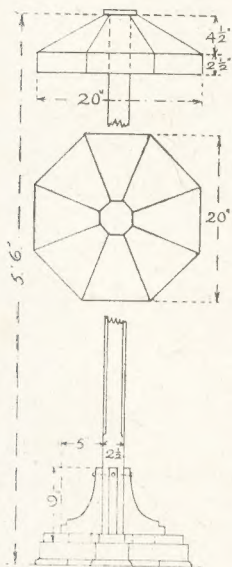
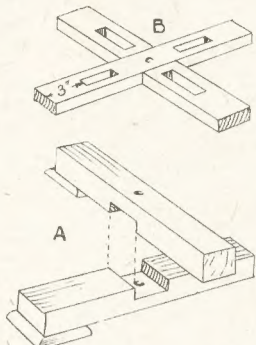
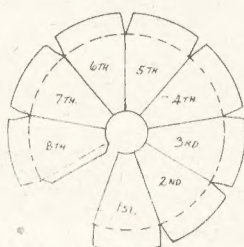

Fig. 2 — Section of standard and base
Fig. 3 — Construction of base parts
Fig. 6 — Shaped shade panels
Work can be commenced upon the base, the general outline and dimensions of which are given in Fig. 2. There are two sturdy crosspieces or rails measuring 18ins. long by 4ins. by 2ins. in cross section, and after they have been cut off squarely and the centres marked across, the halvings are drawn in 1in. each side of the centre line and dropped down on the thickness of the stuff to half the depth to make a sound halving joint, as seen in detail (A), Fig. 3.
To form the feet below the cross rails, cut out four blocks 5ins. by 4ins. by  $\frac{1}{2}$ in. or  $\frac{3}{4}$ in. thick. Round them off on three edges and then glue and screw them to the extremities of the cross rails. Next make the upper members of the cross feet, the two rails (B), as seen in Fig. 3. These are each 17ins. long by 3ins. wide by 1in. thick, and on each, two mortises are to be marked out, as the detail shows, 3ins. in from the ends of the rails and the mortises are 3ins. long and 1in. wide. Cut them through with a coarse fretsaw, keeping just inside the drawn lines so as to insure a tight fit when the brackets are inserted.
of the shade towards the top, so that when eight of these single sections are laid side by side, as in the layout Fig. 6, the parts are ready for scoring and cutting.
By scoring is meant those lines between each panel is cut in very lightly with the tip of a knife, thus enabling a bend to be made exactly along a line. The interior of each panel is cut away as well as the smaller front panel which hangs down, as seen in the front view Fig. 2. On the 8th panel in Fig. 6 is seen a marginal strip, this, when the whole is angled up, is glued to the edge of the 1st panel. Gummed tape cut to length required and put at the back of joins and creases help to strengthen the shade a good deal.
We suggest, therefore, a way of making a simple octagonal shade 20ins. square and 7ins. deep. A piece of cardboard about 29ins. square will be wanted and the general lay-out of each section forming the shade can be seen in Fig. 6.